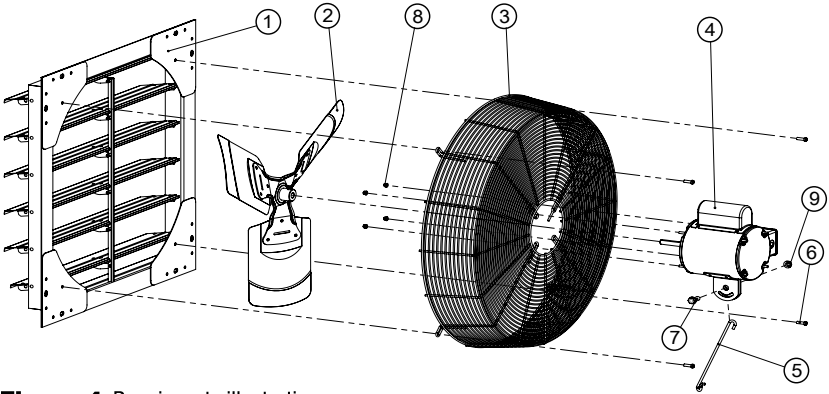

Figure 4: Repair parts illustration
2. Refer to illustration of parts placement (**Figure 4**).